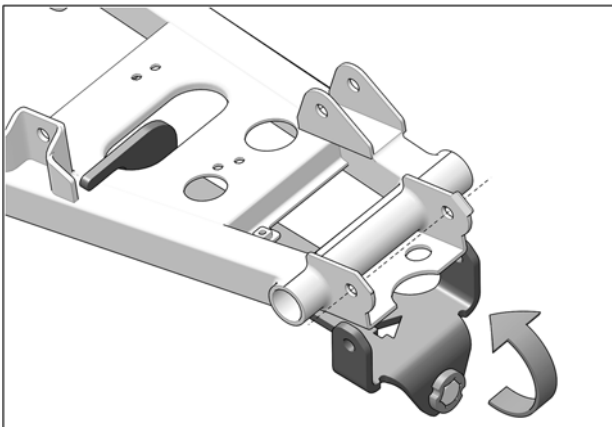

Fig. 7
- Pivot front of anchor bracket upward and align bracket bolt holes with suspension arm bolt holes. See Fig. 7